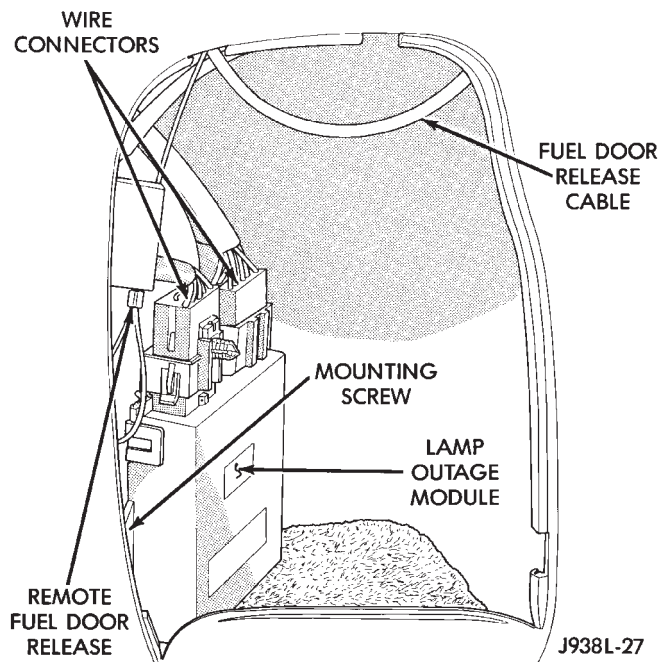

Fig. 11 Lamp Outage Module
- (1) Remove battery negative cable.
- (2) Remove spare tire from carrier.
- (3) Remove access door (Fig. 11).
- (4) Remove wiring connectors at top of module.
- (5) Remove 1 screw holding module to inner quarter panel.
- (6) Remove lamp outage module.